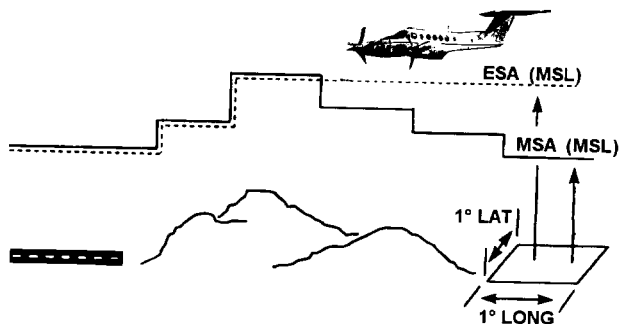

Figure 3D-12. Minimum En Route Safe Altitude
(5) *Minimum En Route Safe Altitude (ESA).* When the KLN 90B is in the LEG mode, the ESA is the highest MSA from the present position to the active waypoint, to the destination waypoint via the active flight plan. When the KLN 90B is in the OBS mode, the ESA is the highest MSA from the present position to the active waypoint. Refer to Figure 3D-12.
d. NAV 4 Page. The NAV 4 page is used for altitude alerting and for advisory vertical navigation. Refer to Figure 3D-13.